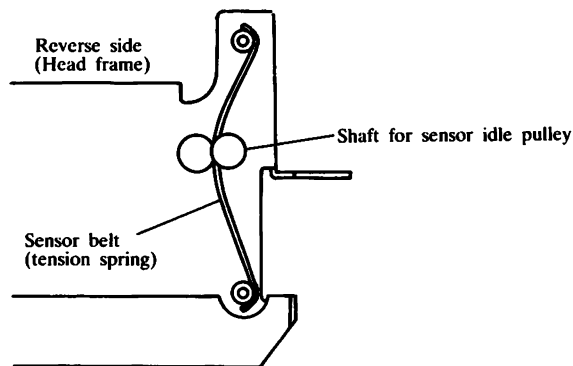

Fig. 33
- (1) Remove the Sensor belt tension spring from the Shaft for sensor idle pulley and the Head frame base. (Refer to Fig. 33)
- (2) Pull off the Shaft of sensor idle pulley, then remove the Snap ring E3. The Idle pulley will come off.